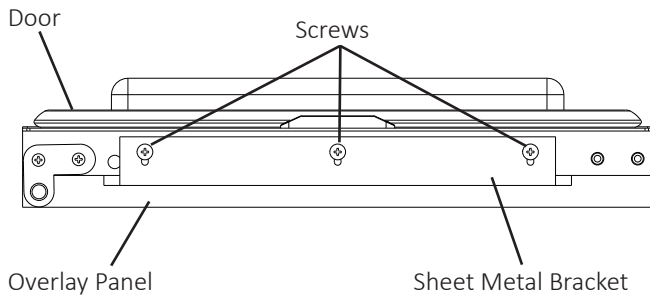

Fig. 18
- 6) Fasten the sheet metal bracket to the bottom of the door with the three T2 screws provided. Tighten the screws to the door (See Fig. 18).